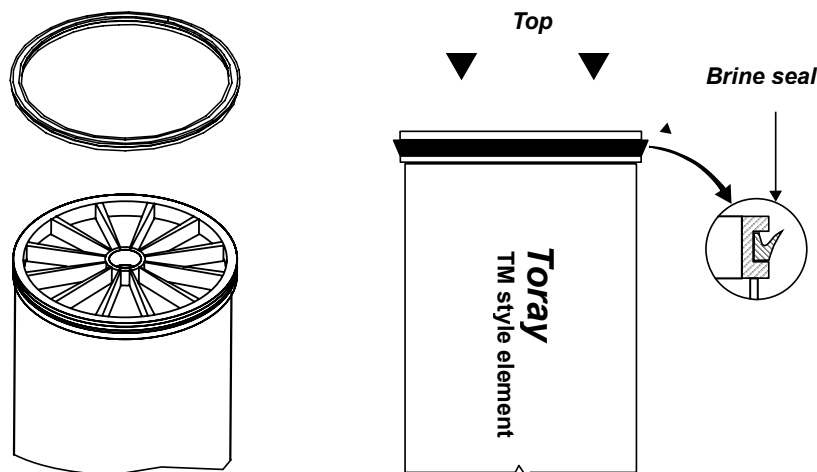

Figure TMM-200-2
1. Brine seal: Toray elements shipped from Toray Membrane USA (TMUS), Toray Membrane Middle East (TMME), Toray Bluestar Membrane (TBMC), Toray Membrane Foshan (TMFC) and Toray Advanced Materials Korea (TAK) comes with the brine seal pre-installed. Customers who received elements from TMUS, TMME, TBMC, TMFC or TAK can skip this step and only check the correct position of the seal. For other regions, follow the instructions illustrated in Figures TMM-200-2 and TMM-200-3.